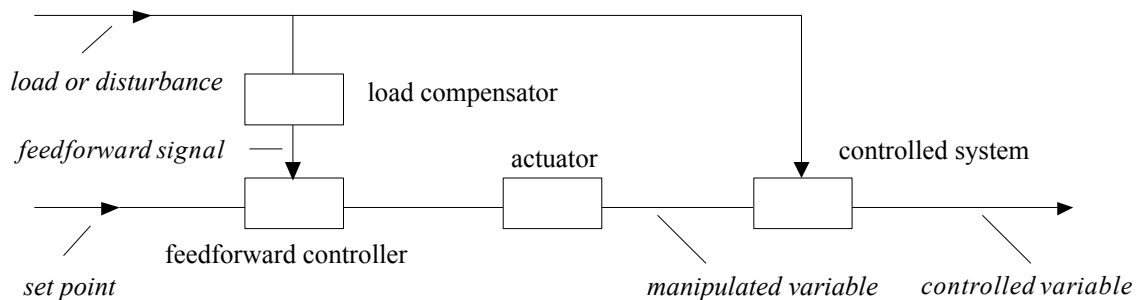
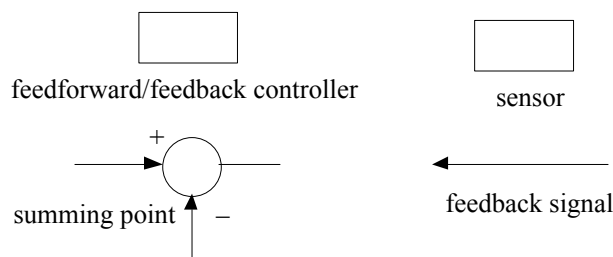

Figure 5.1. Feedforward control structure.
Figure 5.2. Suggested additional elements.
5. (a) Explain how the feedforward control structure of Figure 5.1 enables a control system to reject disturbances. Your answer should compare the time-domain responses of the controlled variable and the manipulated variable when feedforward control is present to the same responses when the feedforward control is not present. Why might disturbance rejection with a feedforward system be less than perfect? [7 marks]
- (b) Using Figure 5.1 as a basis, draw an enhanced block diagram that shows a feedforward plus feedback control structure. Figure 5.2 suggests additional blocks and signals that might be useful for this task. [4 marks]